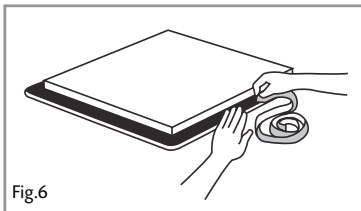

Fig.6
2. Position the hob seal, as shown in the diagram below (Fig 6), ensuring that the ends meet without overlapping. Do not use silicone type sealant.